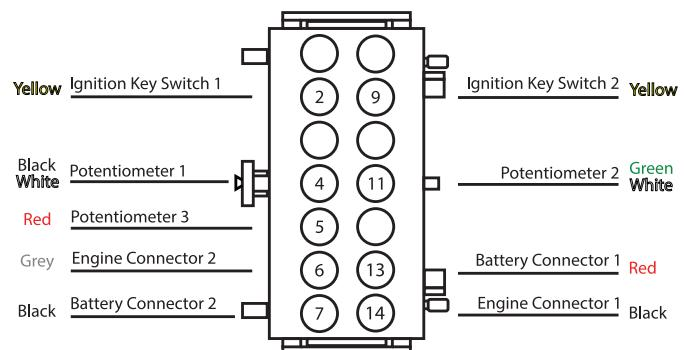
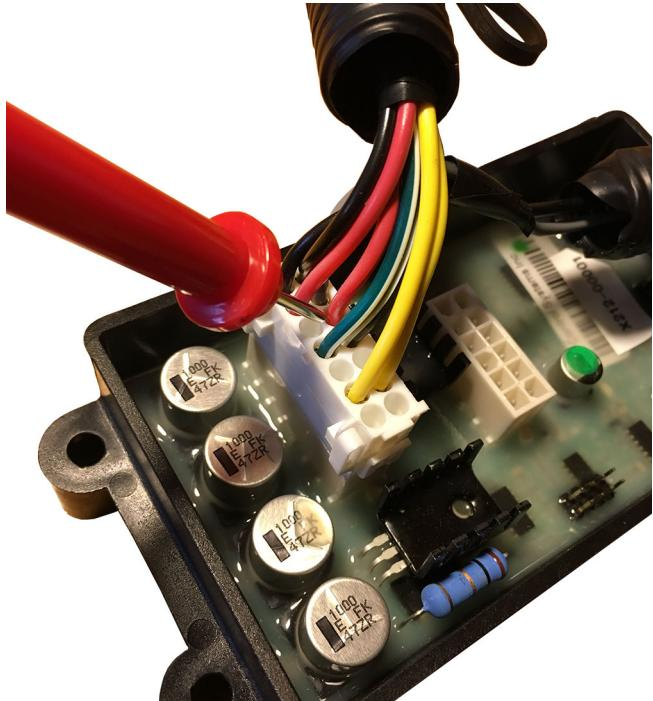

Figure 167
Figure 168
1. Set a multi-meter to ohms (Ω) and measure the potentiometer resistance. See Figure 167 and Figure 168.
- b. Position the red probe on the terminal of the red wire at the potentiometer (Pin 5 in Figure 167) and the black probe on the terminal of the green / white wire.
- b. Position the red probe on the terminal of the red wire at the potentiometer (Pin 5 in Figure 167).
Also see Figure 168.